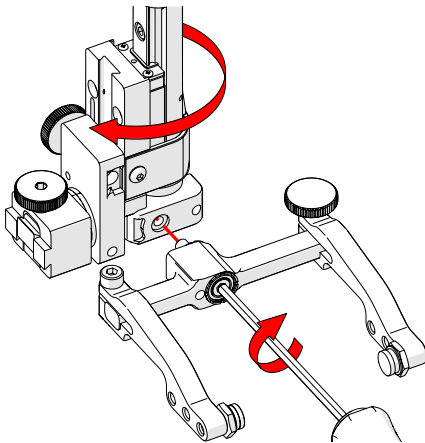

Fig. 109 - Screw yoke to opposite side
6. Mount the yoke to the opposite side of the base using the supplied 3 mm hex driver (Fig. 109).